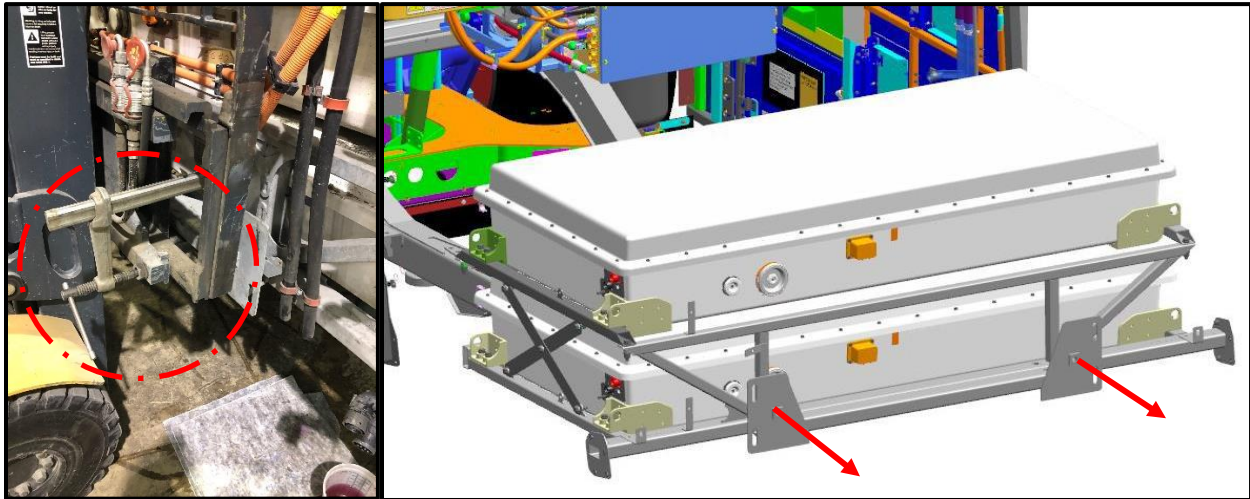

Figure 21: Rear ESS Pack Assembly Removal Location Reference.
64. Support the ESS packs with forklift and remove ESS pack assemblies. See Figure 21.